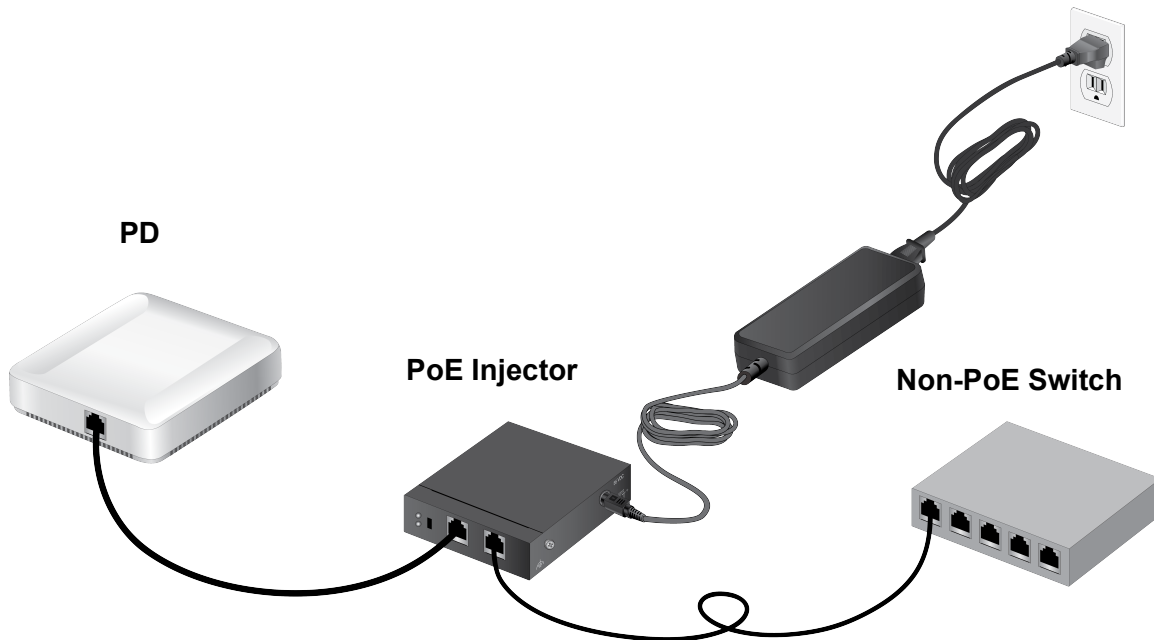

Figure 1. Example of the AT-7101GHTm Cable Usage Example
The AT-7101GHTm Power over Ethernet (PoE) Injector is a midspan device to be installed between a non-PoE switch and a Powered Device (PD). The PoE injector makes the port of the non-PoE switch functioning like a PoE switch port and provides power to the PD through the LAN port. See Figure 1 as an installation example.